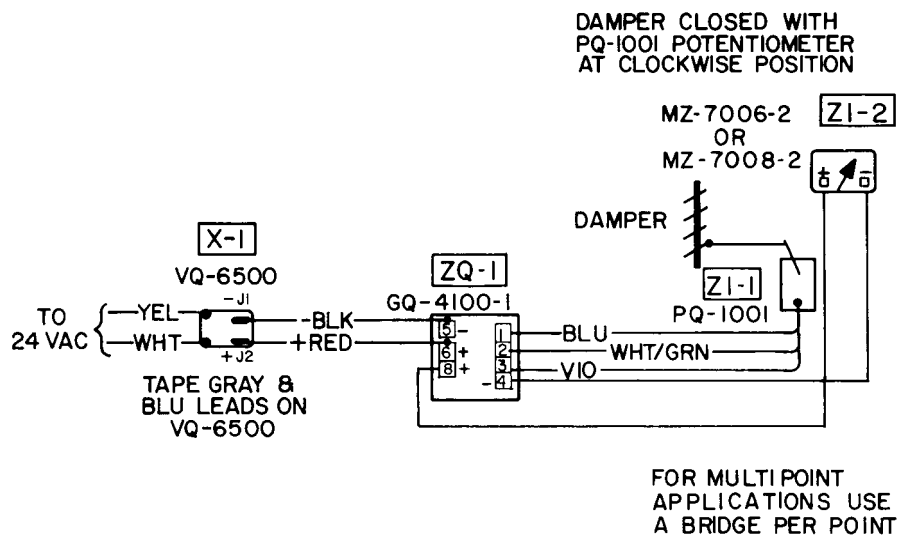

Figure 5: Wiring the PQ-1001 into a Typical GQ-4100 Indication System
1. Connect the PQ-1001 to the associated GQ-4100-1 bridge according to the wiring designations in Figure 5.